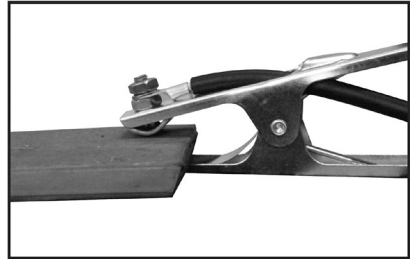

Fig. 4
2. Attach the ground clamp to the workpiece (Fig. 4). Connect the ground clamp directly to the workpiece and as close to the cutting area as possible to prevent the current from traveling along an unexpected path, creating an electric shock or fire hazard.